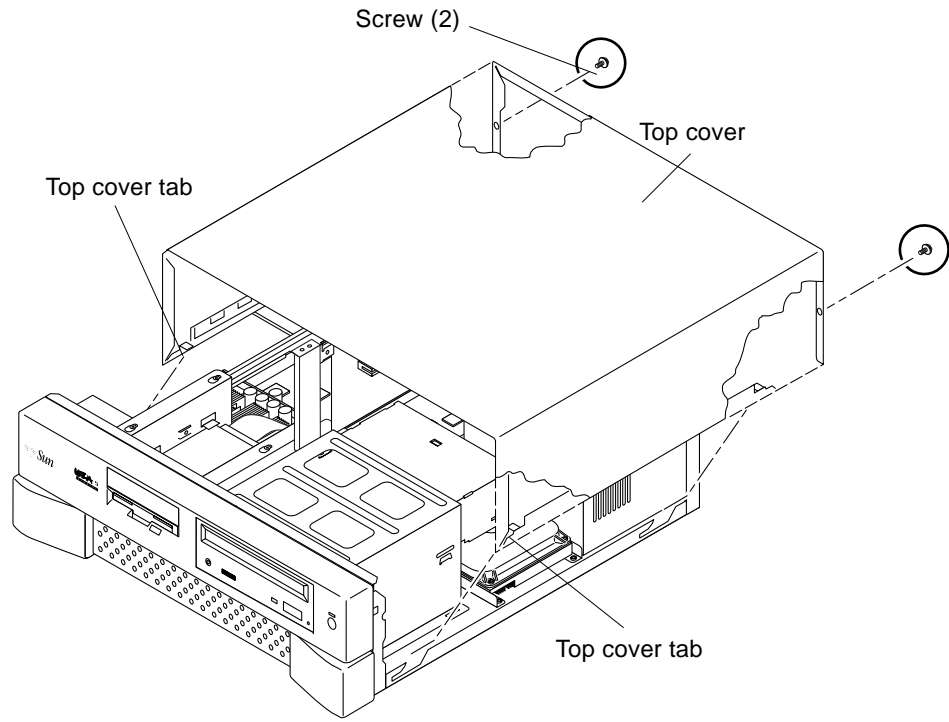

FIGURE 4 Removing and Replacing the Top Cover (Ultra 5)
2. Remove the top cover (FIGURE 4):
3. Replace the top cover (FIGURE 4):